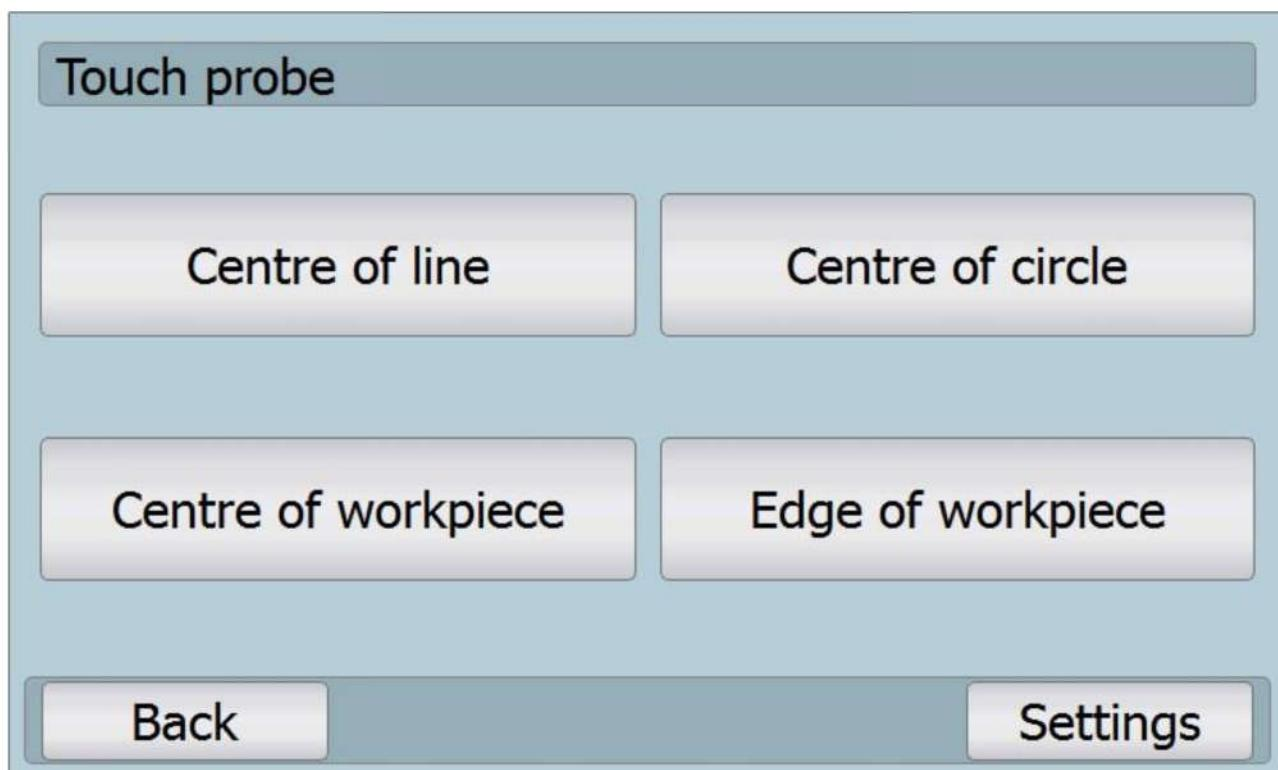

Fig. 39: Touch probe function
- ⑩ After opening it includes four new function for use with 2D touch probe (see fig. 39: Touch probe function)
- ⑩ In the bottom right (see fig. 39: Touch probe function) is setting for the touch probe which enables setting
- ⑩ **Caution** – in case of changing the plane setting, it is necessary to recalibrate the touch probes on the circle!!! The compensation related data are automatically reset..